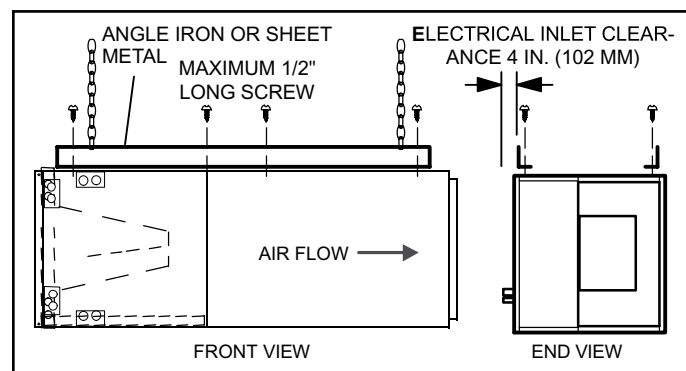

Figure 3. Suspending Horizontal Unit
5. If the unit is suspended, the entire length of the cabinet must be supported. If you use a chain or strap, use a piece of angle iron or sheet metal attached to the unit (either above or below) to support the length of the cabinet. Use securing screws no longer than 1/2 inch to avoid damaging the coil or filter. See Figure 3. Use sheet metal screws to connect the return and supply air plenums as required.
11. If suspending the unit, it must be supported along the entire length of the cabinet. If using chain or strap, use a piece of angle iron or sheet metal attached to the unit (either above or below) so that the full length of the cabinet is supported. Use securing screws no longer than 1/2" to avoid damage to coil or filter, as illustrated in Figure 3. Connect return and supply air plenums as required using sheet metal screws.